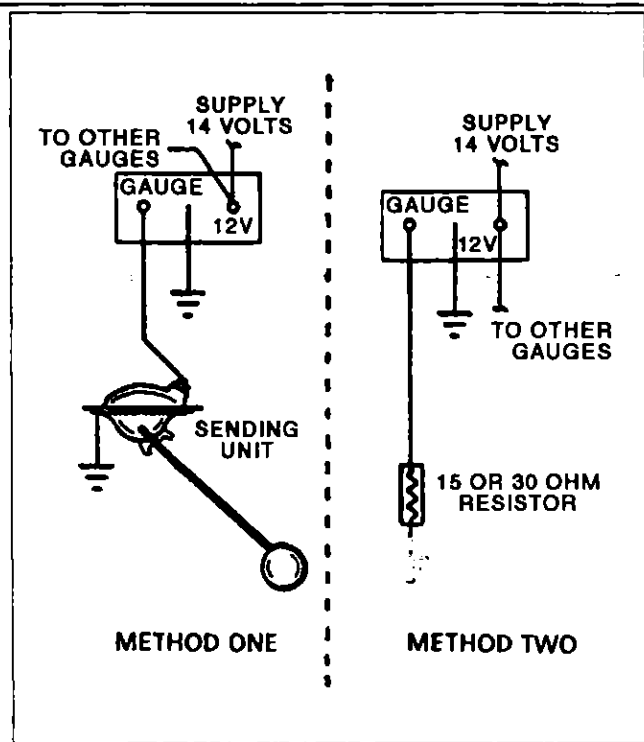

Figure 8-10. Checking Fuel Gauge
- (b) Connect the sender directly to the gauge being checked using Number 16 or larger wire. (Refer to Figure 8-10.)